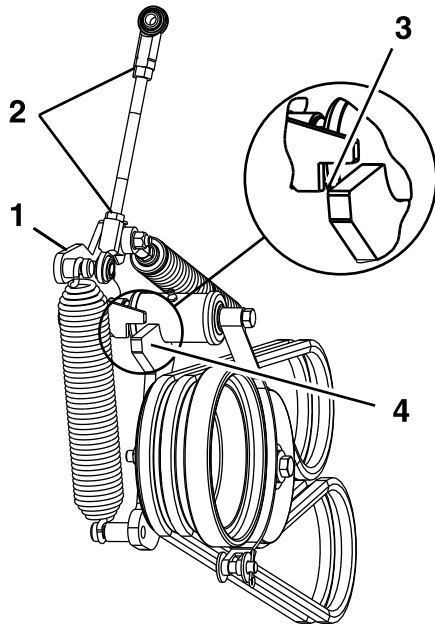

**Figure 8**
5. Loosen belt guides “A” and “B” (See Figure 8).
7. Route new belts onto sheaves as shown in the decal located on the back of the left drive shield (see Figure 8).